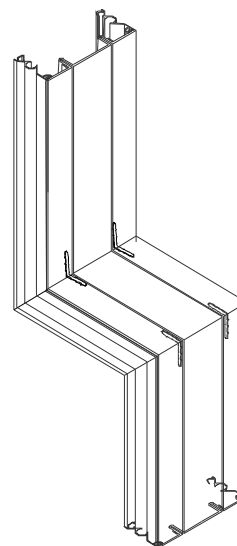

Figure 10
**STEP 4.** Select splice pins for the seal (one pin per splice slot in the face seal). Insert each splice pin half way into its corresponding splice slot in the face seal. Align the mating seal sections with one another. Insert the other half of the splice pin into the splice slots in the mating section of the face seal. Press the mating sections of the face seal together, compressing the caulk and providing a seal at the transition, see Figure 10.